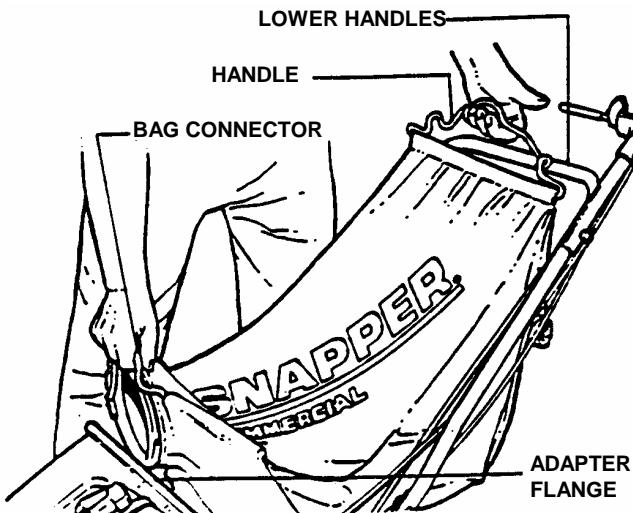

FIGURE 2.8
Position grass bag between handles. See Figure 2.8. Install grass catcher by sliding connector over flange of adapter. Attach grass bag hooks over middle handle cross bar. See Figure 2.9.
1. Grasp bag connector and bag handle as shown. See Figure 2.8.